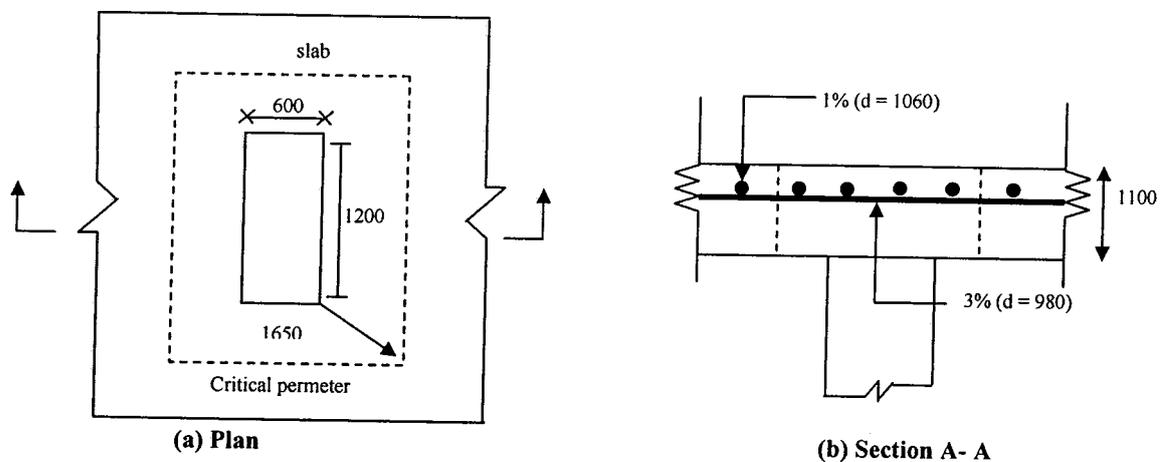

Figure 3 : (a) and 3 (b)
- (b) A concrete slab as shown in Figure 3(a) and 3(b) resist punching shear. Calculate the required amount of reinforcement. The characteristic strength of steel and concrete are  $460\text{N/mm}^2$  and  $40\text{N/mm}^2$  respectively. The ultimate limit state load to be carried is 15MN.